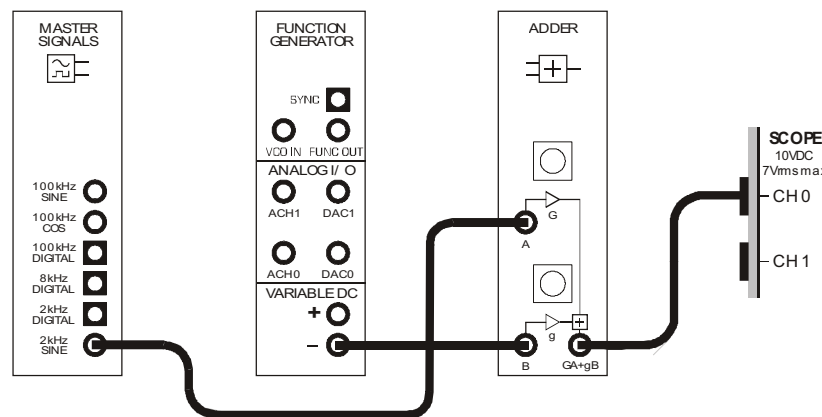
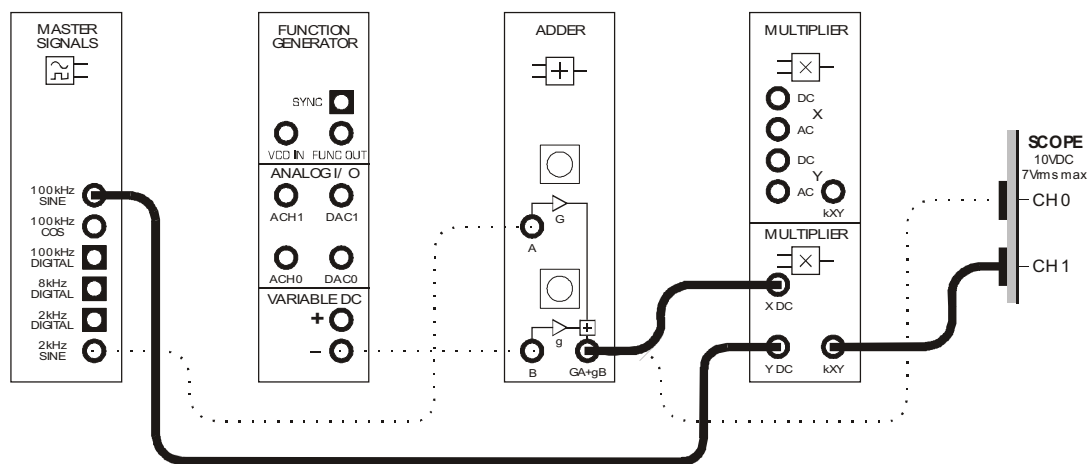

Figure 4
Figure 6
19. Connect the set-up shown in Figure 4 below.
23. Modify the set-up as shown in Figure 6 below.
The set-up in Figure 6 builds on Figure 4 so don't pull it apart. Existing wiring is shown as dotted lines to highlight the patch leads that you need to add.